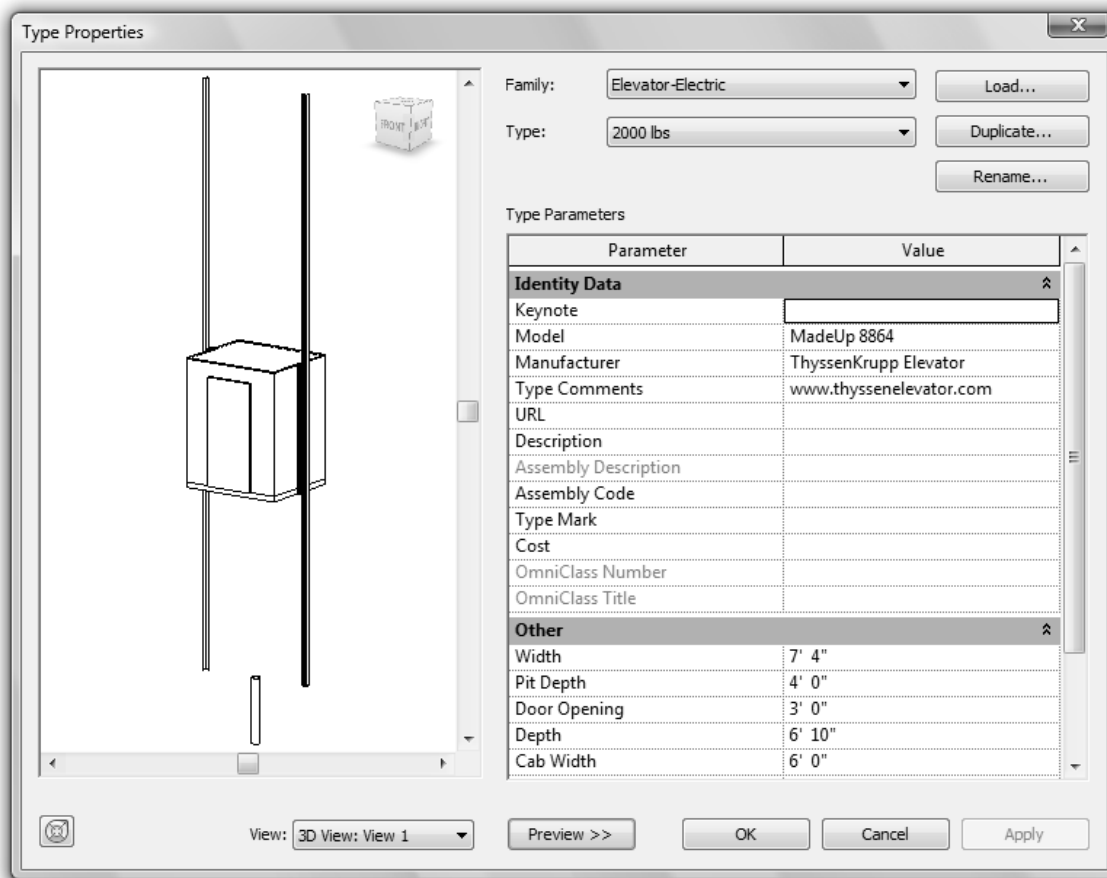

Figure 3-4.6 Elevator properties
16. Add the following information (Figure 3-4.6):